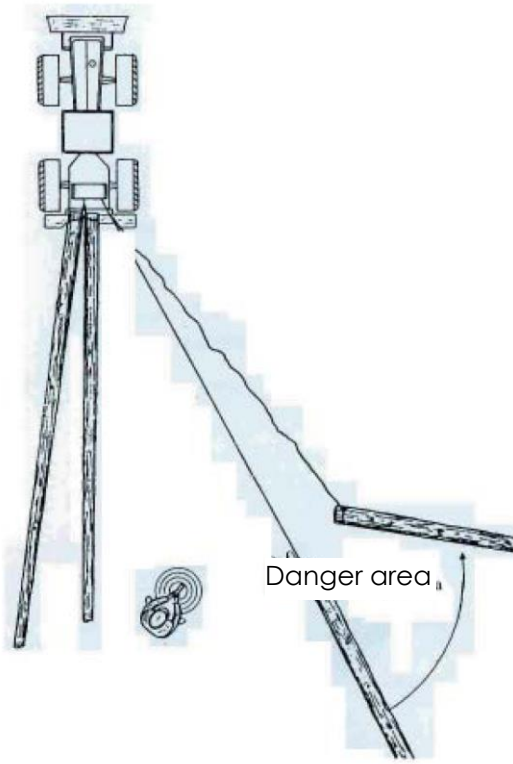

Figure 6
27. On uneven terrain or when not observing the maximum allowed towing angle there is a danger of the winch rolling over (Figure 6).
34. The winch can be operated only from a safe place from which the load, wire rope, rope hook or the winch itself do not pose a threat to the operator. A safe place can also be the tractor seat if the winch has a safety net of sufficient size. When operating the winch outside the tractor seat the operator must be provided with an appropriate protection, e.g. the tractor itself, secure location at a sufficient distance from the vehicle, e.g. behind a tree. Logs can be monitored from the side next to the connection and shorter timber can be monitored diagonally behind the load. (See Figure 6).